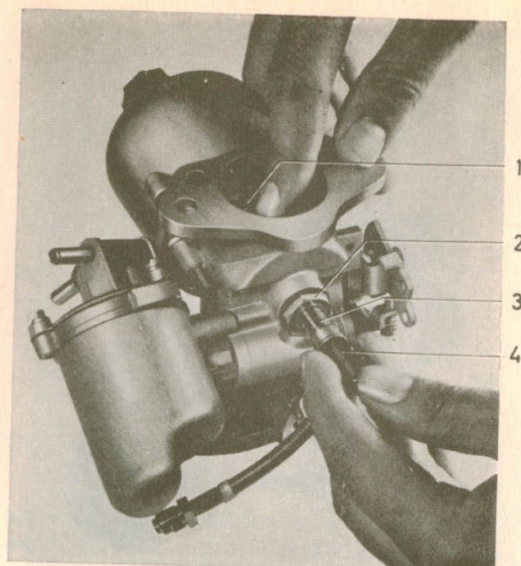

Fig. 1-77. Centering the jet
When centering is carried out, the carburetor should be disassembled. The carburetor in question is laid down on a bench as shown in Fig. 1-77 and the vacuum plunger is moved backwards and forwards with one finger towards the throttle flap by using light pressure.
3. Push the jet into position. Note that the fuel line of the jet should be at the same angle as it is when fitted. See Fig. 1-77.
4. Push up the jet against the jet sleeve and, at the same time, move the vacuum plunger backwards and forwards right down to the bridge by exerting light pressure against the throttle flap. Center the jet sleeve so that it does not prevent movement. Tight the lock nut (2) and then check that the plunger runs easily down to its loose position when the jet is held in the upper position as described in point 3 above.